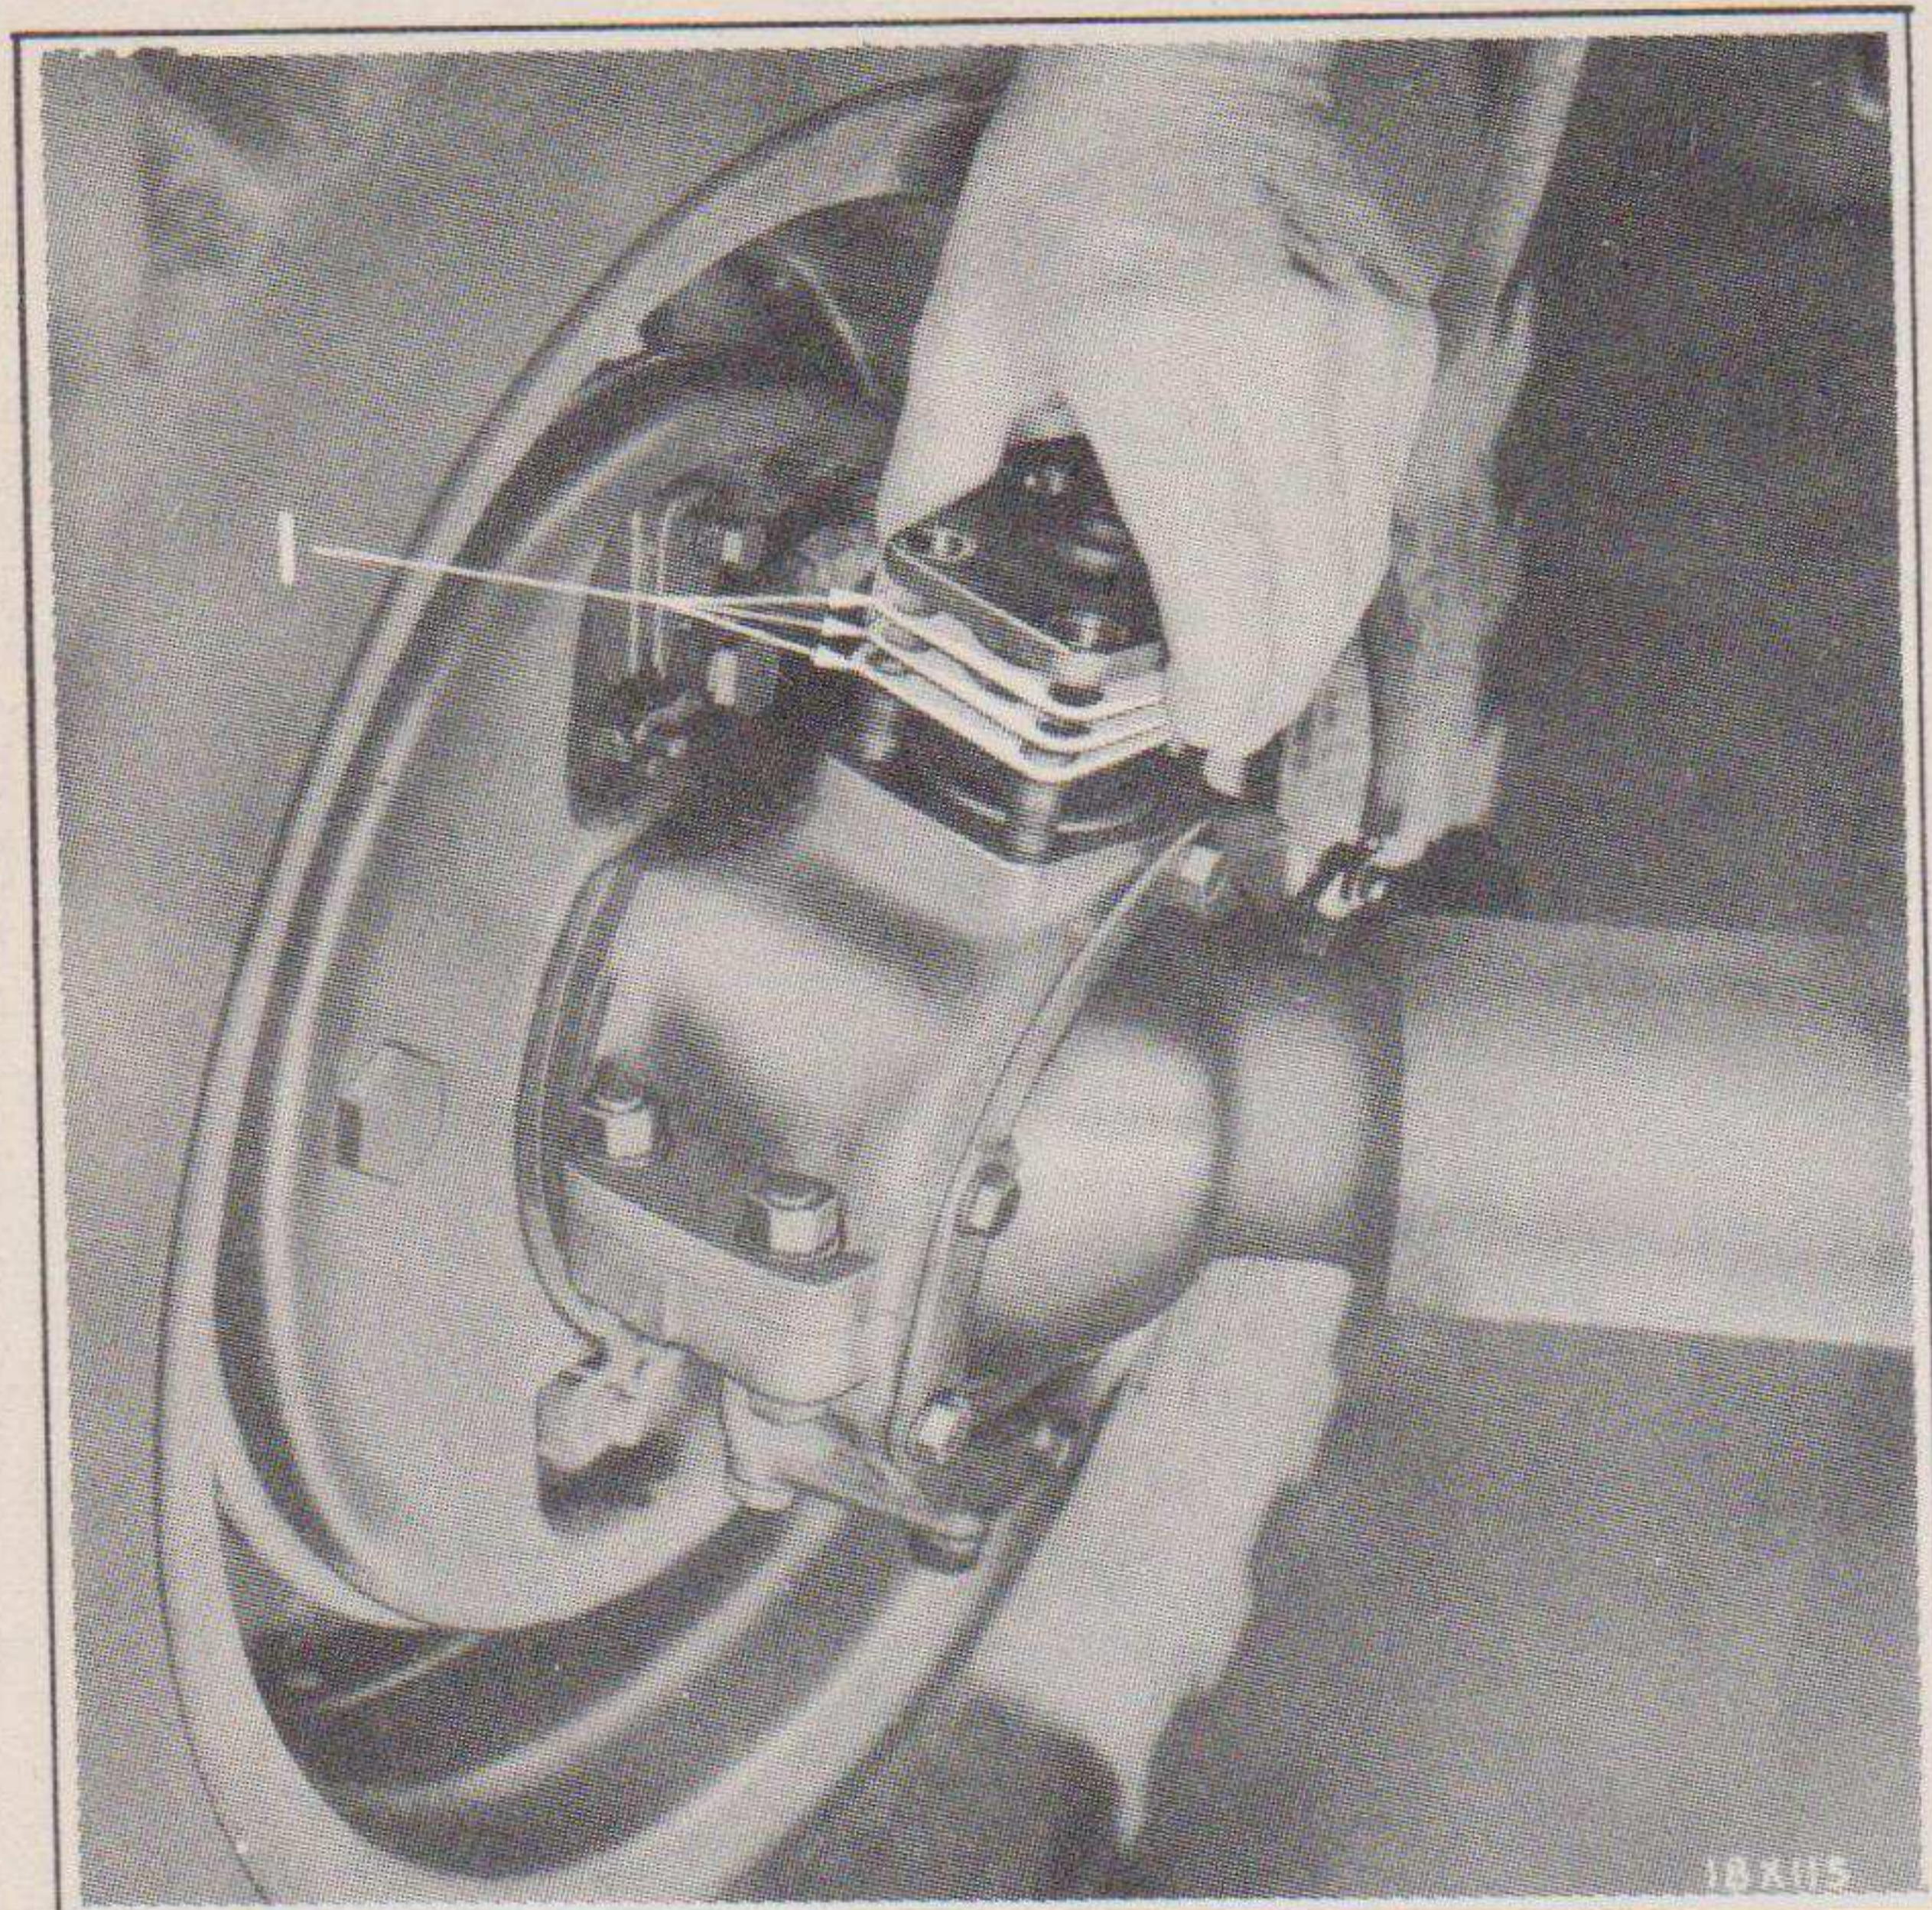

Fig. 32—Steering Knuckle Flange Bearing Adjusting Shims
- (c) Adjustment of the steering knuckle flange bearings is made by means of the shims between the top bearing cap and the steering knuckle flange. See Fig. 32. Remove shims to tighten or add shims to loosen the bearings. The bearings should be adjusted first so there is no end (up and down) play in the steering knuckle assembly but with sufficient freedom to oscillate freely by hand. Make sure that bearing caps and bearings are seated by tapping with a soft hammer or mallet. Then remove the bearing cap and reduce the total thickness of the shim pile .005". After this is done, there should be a perceptible drag felt when oscillating the knuckle by hand but it should not bind.